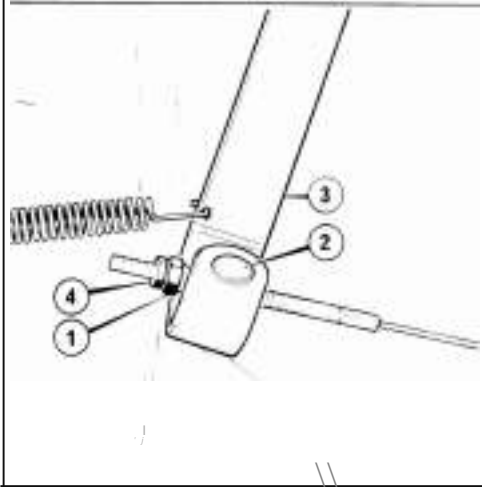

Figure 41 Clutch adjuster
- 1 Unscrew the locknut (Figure 41).